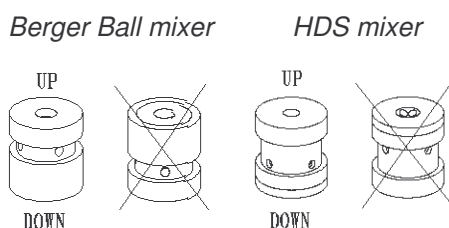

Figure 78 – Mixer Orientation
- 1) Insert the mixer into the observation head in the orientation shown in Figure 78.